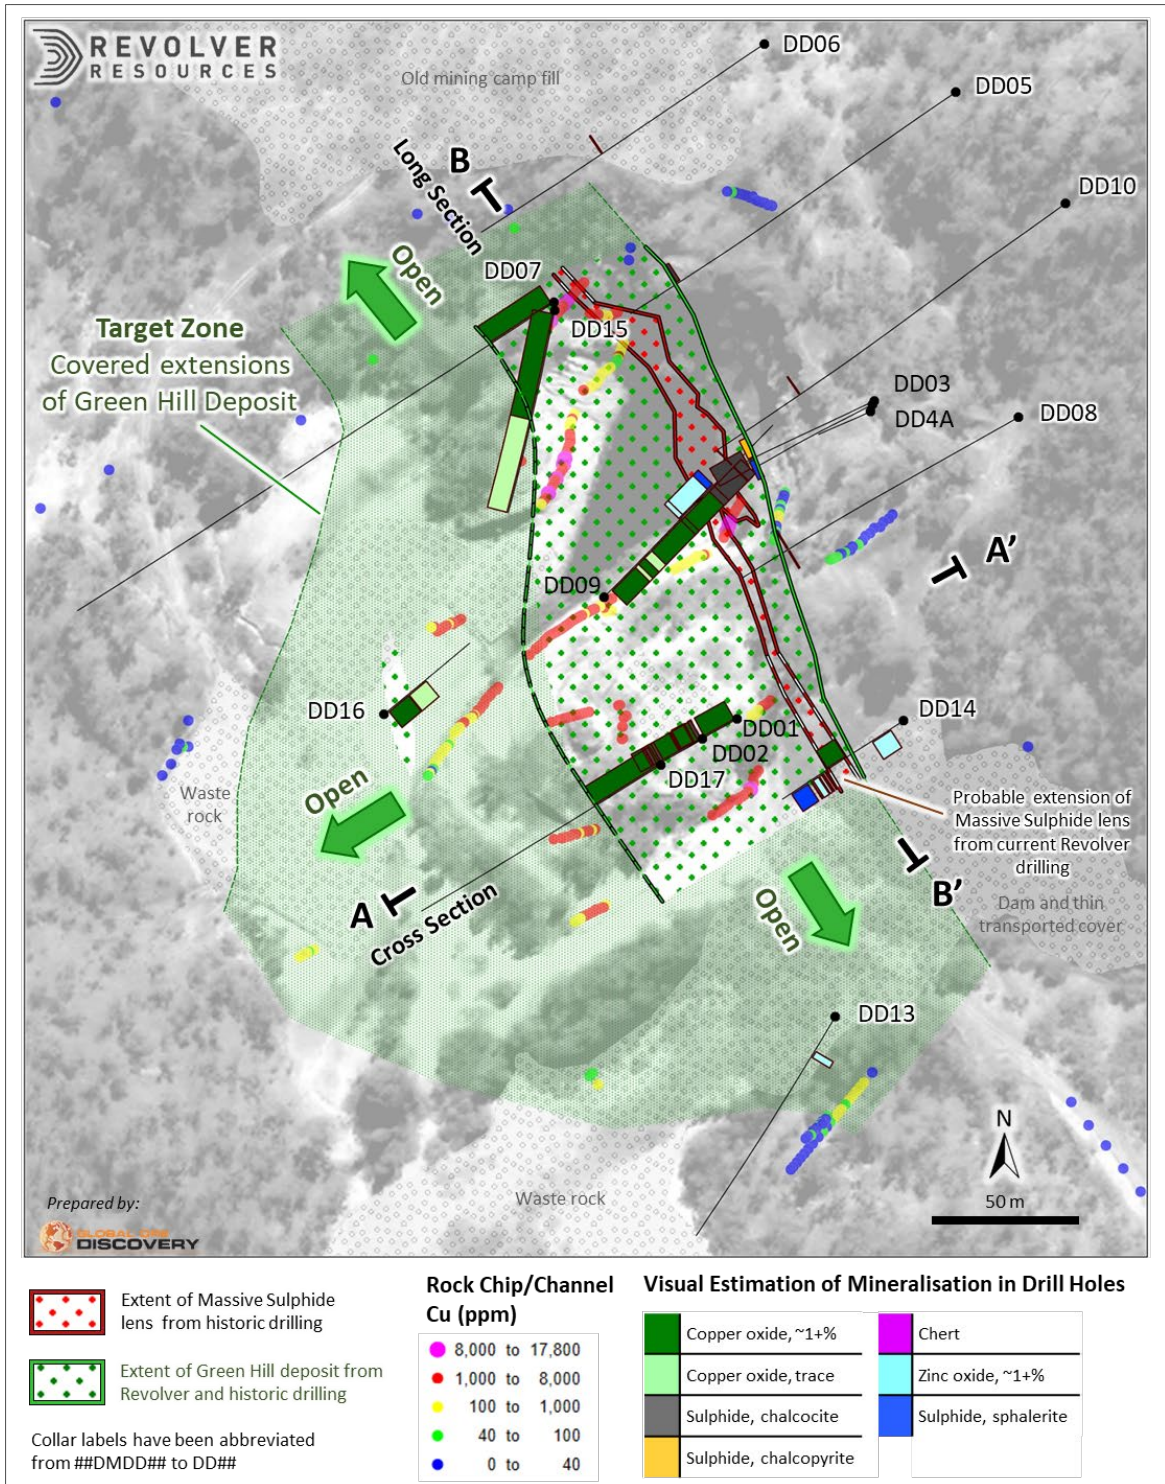

Figure 1: Plan of Dianne Project with Visual Estimates of Copper Mineralization in Revolver Drill Holes for the Massive Sulphide and Green Hill Deposits
- The mineralization remains open in multiple directions (Figures 1 and 2)
- 10 of the completed drill holes are cased and ready for down hole Electromagnetic (EM) survey in April 2022